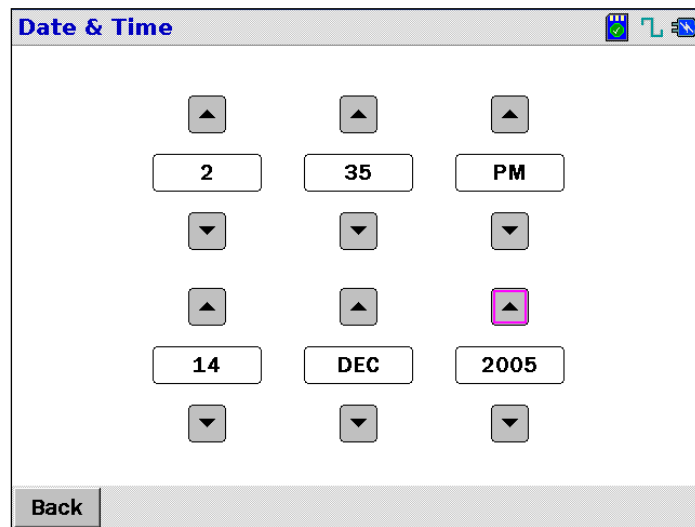

FIGURE 30 - DATE AND TIME SCREEN
2. Touch the ▼ or ▲ icons above or below the field of interest (e.g. Dec. in Figure 30) to scroll to the desired value. The range for the *Year* field is 2005 to 2025.